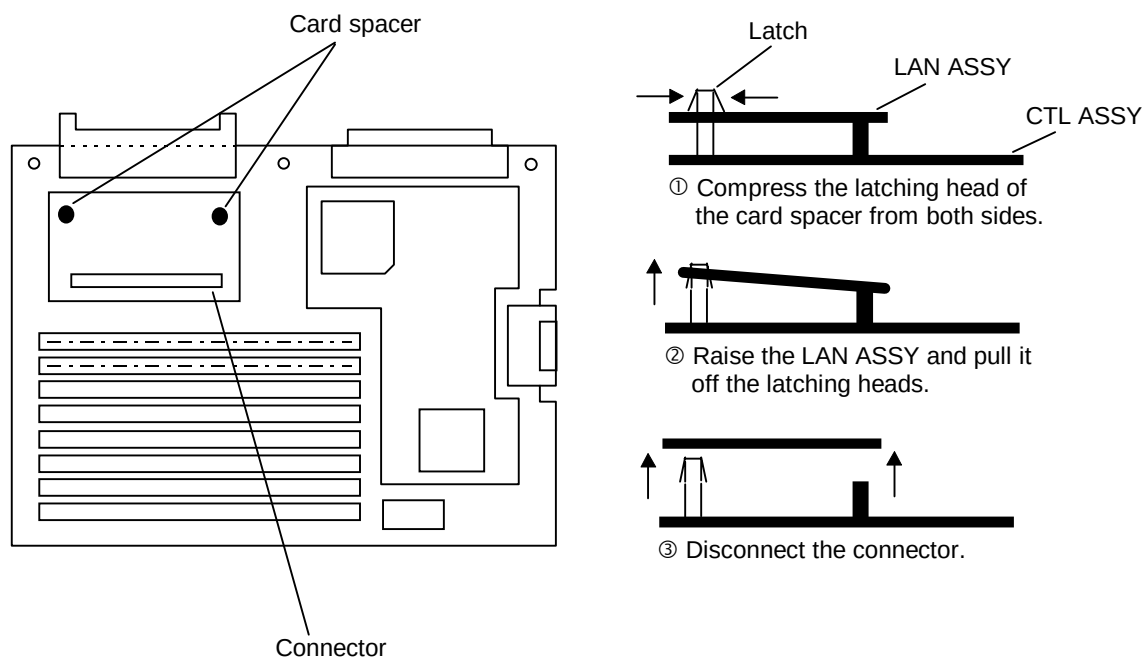

Figure 14.1 Replacing LAN ASSY (1)
- ② Open the rear cover 1 and rear cover 2, and remove CTL ASSY. (See RH-REP0330.)
③ Pinch the latching heads of card spacers with needle-nose pliers etc. , then pull the LAN ASSY up with care not to touch with surrounding parts. (See Figure 14.1.)